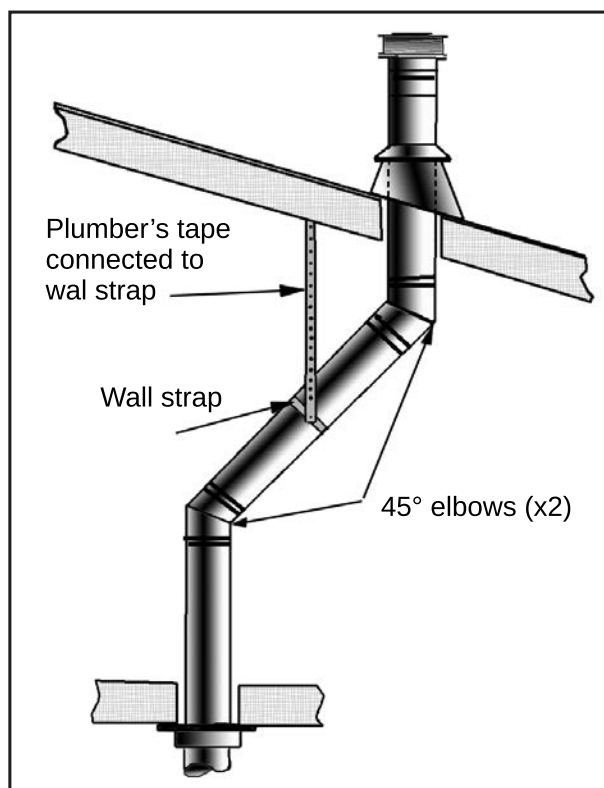
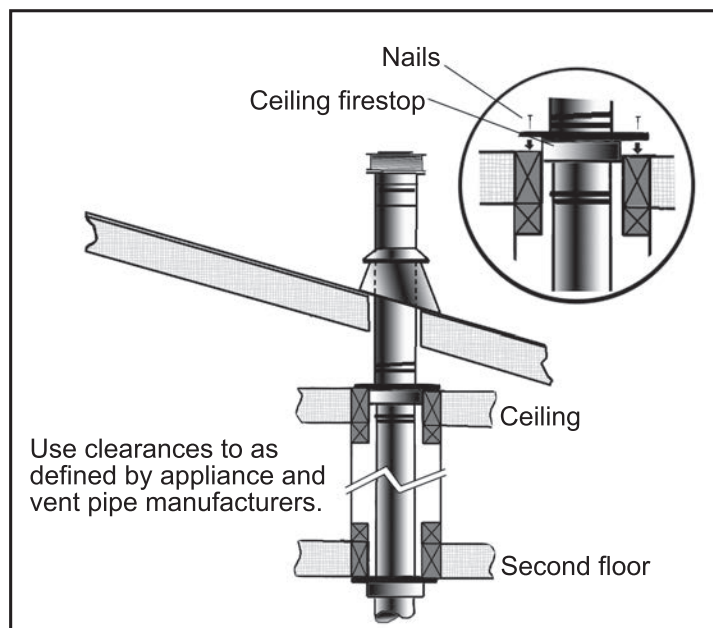

Figure 57: Use of Wall Straps.
Figure 58: Multi-Story Vent Pipe Installation.
- (1) If an offset is necessary in the attic to avoid obstructions, it is important to support the vent pipe every 3 feet (914 mm), to avoid excessive stress on the elbows, and possible separation. Wall straps are available for this purpose (see Figure 57).
- (2) When ever possible, use 45° degree elbows instead of 90° degree elbows. The 45° degree elbow offers less restriction to the flow of flue gases and intake air.
- (3) For multi story installations; a ceiling firestop is required at the second floor, and any subsequent floors (see Figure 58). The opening should be framed to 10" (254 mm) x 10" (254 mm) inside dimensions, in the same manner as shown in Figure 46.
- (4) Any occupied areas above the first floor, including